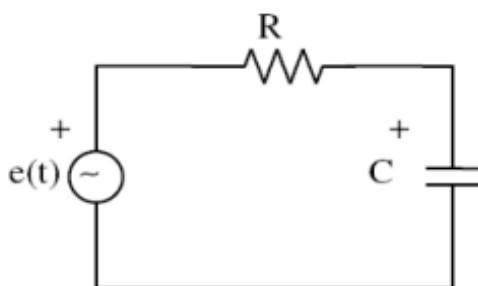
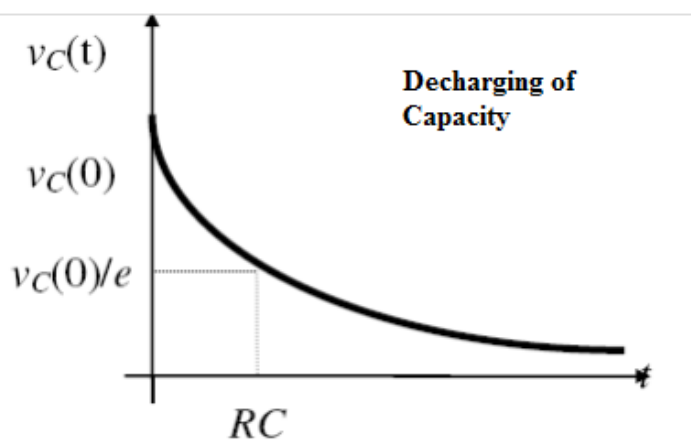
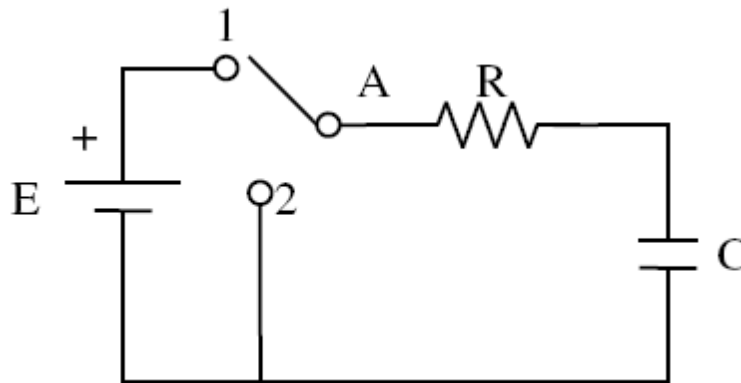
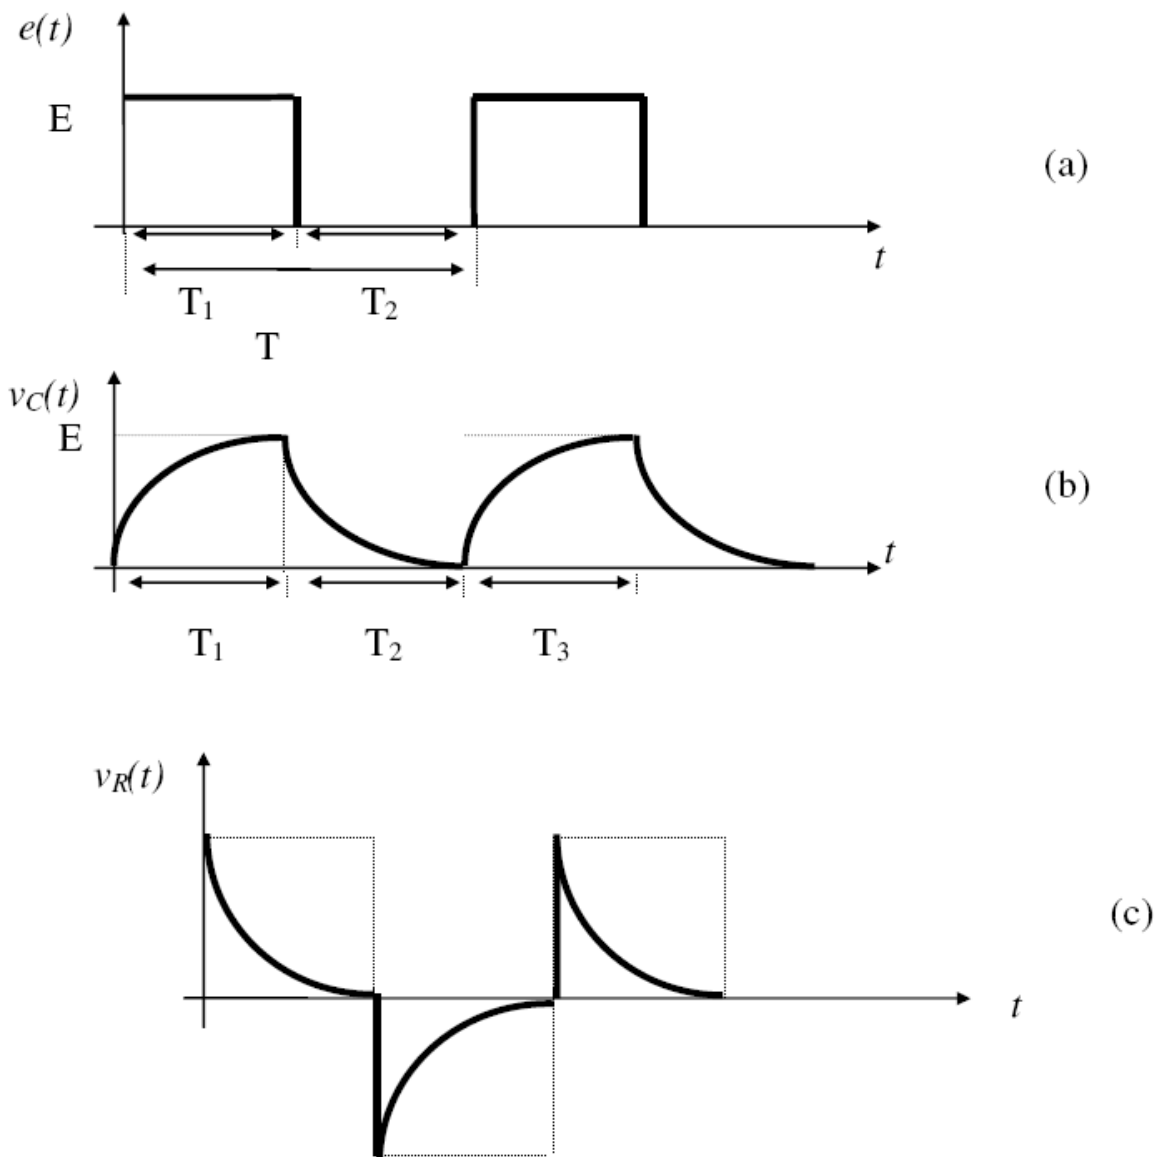

Figure 1
Figure 3
Figure 5
Figure 6
Let's consider RC circuit given in Figure 1. State equations of this circuit are,
Variance of this voltage according to time is given in the Figure 3. RC is the time constant of the circuit in equation (2) and (3); if you put R as ohm and C as farad, its unit is seconds.
If $e(t)$ source is a pulse source as shown in Figure 4a, one can think circuit in Figure 1 as Figure 5.
For this case, it is necessary to indicate that A key in Figure 5 is kept on 1 position for D time, then it is taken to position 2. When A key is on position 1, in the interval $0 \leq t < \Delta$, the voltage expression of C capacity is defined by curve from 0 to Δ shown in Figure 4b. If $t = \Delta$, the voltage of the capacity is $v_{C\Delta} = v_C(\Delta)$. When t equals to Δ , the capacity will start to discharge since A key is taken to position 2. The curve given in Figure 3 can be used for $t \geq \Delta$ but it is necessary to
shift this curve by Δ and replace $v_C(0)$ with $v_C(\Delta)$. The operation done on the Figure 3 is equal to replacing t with $(t - \Delta)$ and $v_C(0)$ with $v_C(\Delta)$ in equation (3). These explanations can be summarized by the equation given below;
Let's assume that $e(t)$ source in Figure 1 is a rectangular wave source as in Figure 6. It is necessary to compare the R.C time constant with the period of rectangular pulse when it is started to investigate the voltage changing on the C capacity.